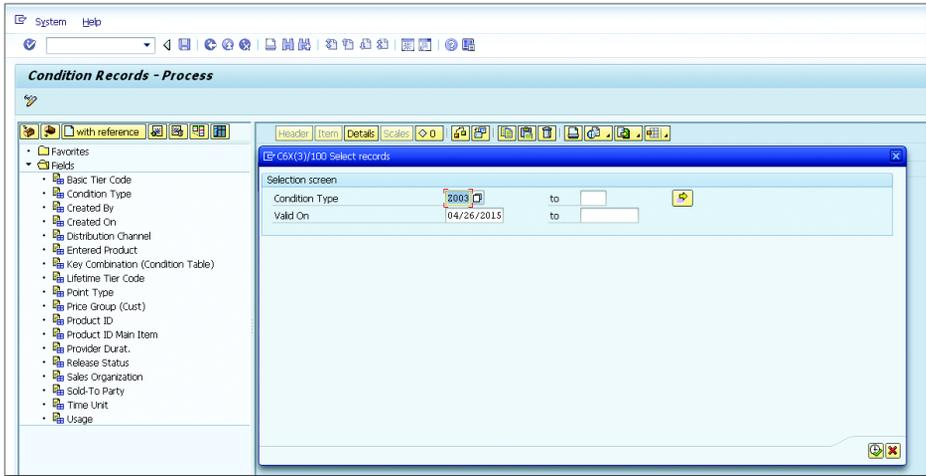

Figure 4.42 Condition Type Search
11. Search for the CONDITION TYPE Z003 and the condition records assigned to it (see Figure 4.42). As soon as you click the EXECUTE icon, you'll see the list of condition records loaded from SAP ERP to SAP CRM.